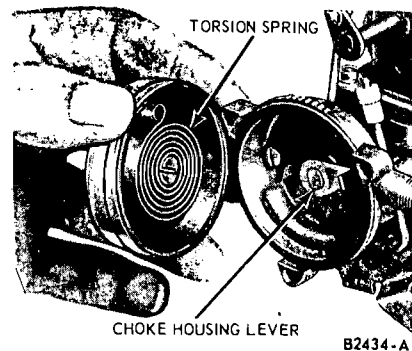

FIG. 14—Correct Position of Automatic Choke Torsion Spring
9. Position the thermostatic spring, housing, gasket and cover to the choke housing, making sure the loop at the end of the thermostatic spring is on the choke lever (Fig. 14). The spring must wind clockwise toward the center when viewed from the choke housing side of the carburetor. Loosely install the spring housing clamp and the retaining screws. Rotate the spring housing in a counterclockwise (rich) direction and align the index mark on the spring housing with the specified index mark (Part 10-1, Section 2) on the choke housing. Tighten the thermostatic spring housing clamp retaining screws.